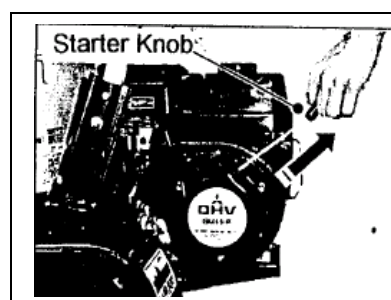

Figure 7
- Pull the starter rope. When the engine has started, push back the choke lever.(Figure 7)